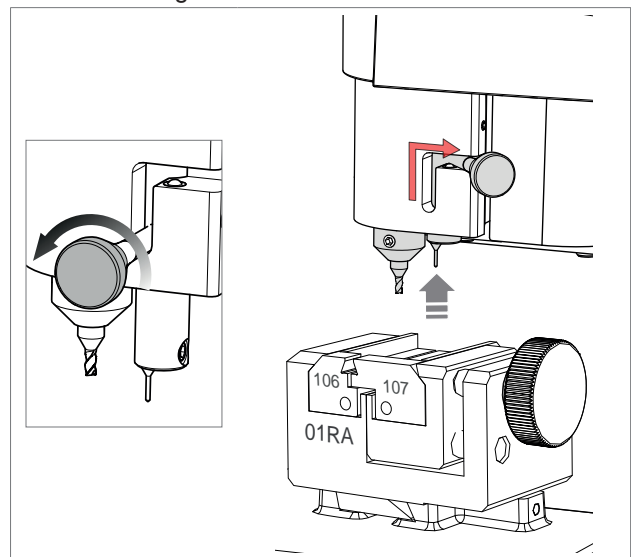

Fig. 50
• EXCLUDING THE TRACER 07T (Fig. 50)
NOTE: for cutting and/or decoding operations with the tracer point 06T, the tracer 07T must be in the idle position (Fig. 50). REPLACE THE 06T TRACER WITH THE REQUIRED CUTTER PRIOR TO ATTEMPTING TO CUT A KEY.